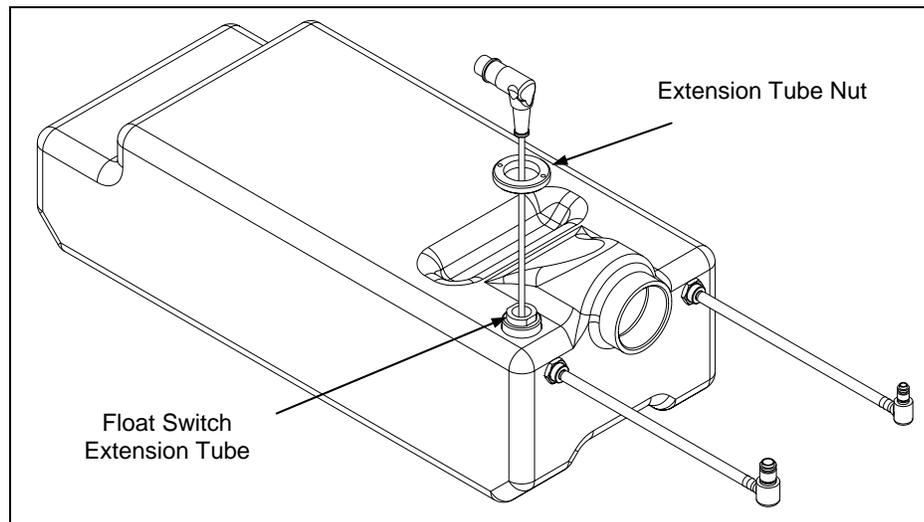

Figure 13-3 Float Switch Assembly
- 2 Remove the Extension tube nut (Part No. 204030500) from the bottle and then remove the float switch assembly (Figure 13-3).